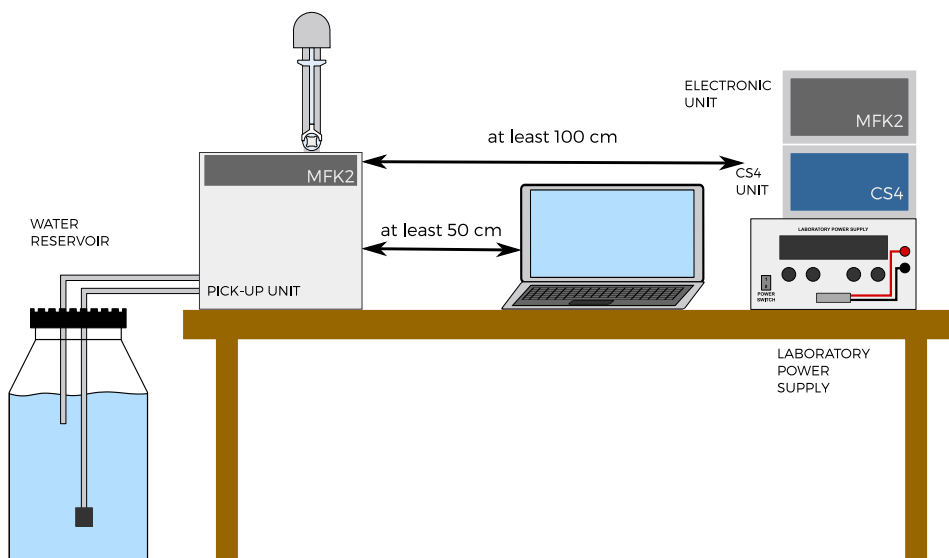

Figure 1: Recommended layout of MFK2/CS4 apparatuses parts
-  Fig. 1 shows recommended layout of MFK2/CS4 apparatuses parts.